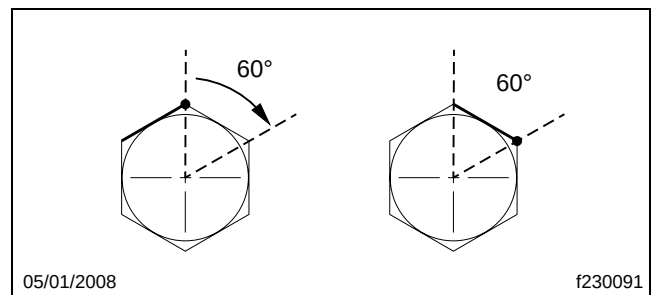

Fig. 8, Turning the Fitting One Flat (60 degrees)
37. Attach the lines to the plumbing adaptors on the steering gear, while ensuring that the lines will not touch the axle or each other once installed. Snug the connection with a wrench to ensure the fittings are seated, which is equivalent to approximately 2 lbf-ft (3 N·m). Then, using a backup wrench to keep the adaptors from turning, tighten the return and supply hoses by 1 flat of the tube nut (60 degrees). See **Fig. 8**.